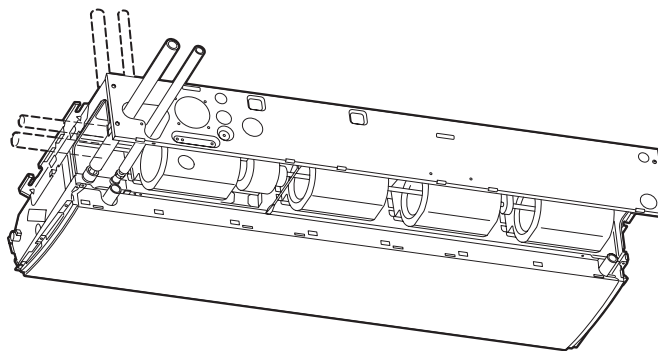

Fig. 3-105
- * If the drain hose is routed through the left side, refer to Fig. 3-105, and follow the procedure above to install the hose. Re-attach the rubber stopper that was earlier removed onto the right side.